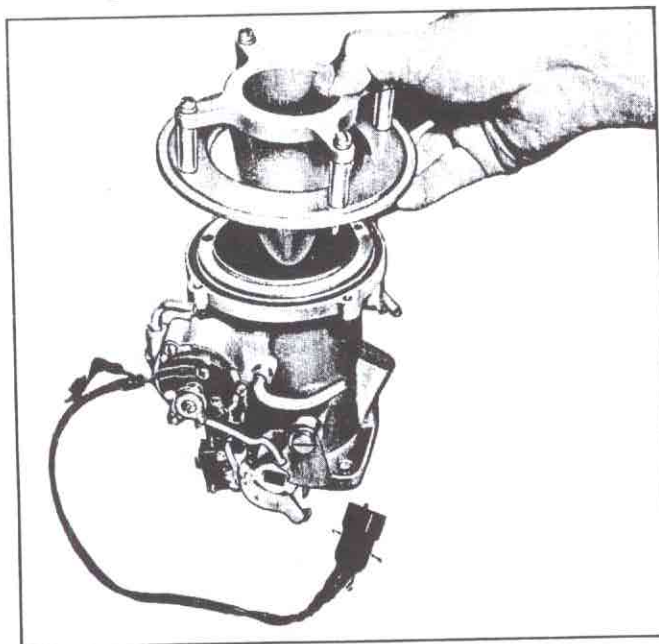

Fig. 159—Installing Diffuser Cone and Venturi Ring
b. Place venturi ring on screws and spacers as shown in figure 159.